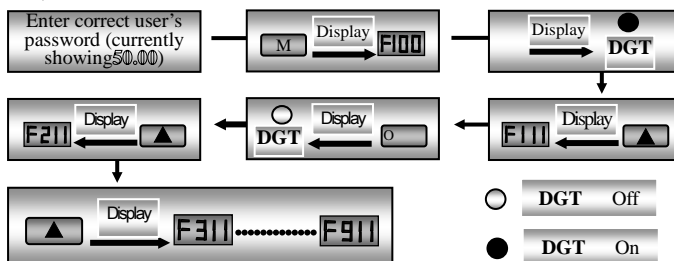

Fig 2-2 Switch over in a Code Group or between Different Code-Groups
e.g. when function code shows F111 and DGT indicator is on, press “▲”/“▼” key, function code will keep increasing or decreasing by degrees within F100~F160; press “O” key again, DGT indicator will be off. When pressing “▲”/“▼” key, function codes will change circularly among the 10 code-groups, like F211, F311...FA11, F111.... Refer to Fig 2-2 (The flashing “50.00” is indicated the corresponding target frequency values).